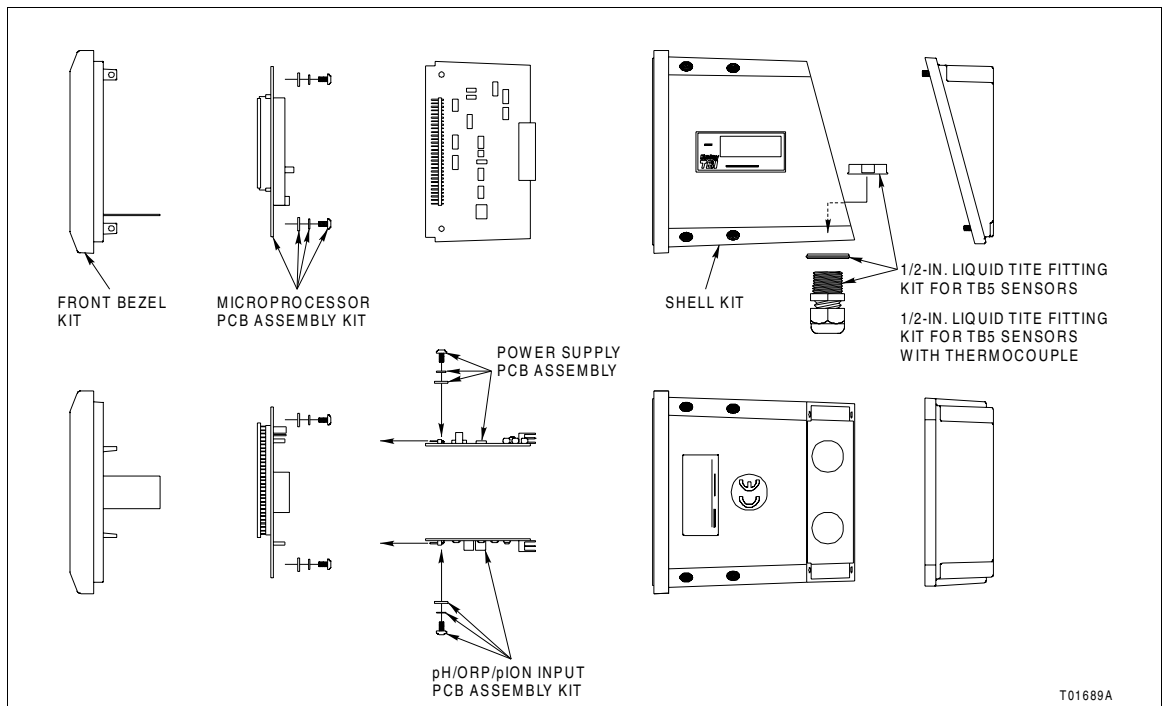

Figure PR58-1. Power Supply PCB Removal
1. Use the Phillips head screwdriver to remove the two screws that retain the power supply PCB (Fig. PR58-1).